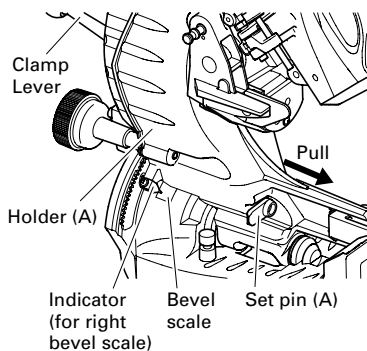

Fig. 30
- (1) Loosen the clamp lever and bevel the saw blade to the left or to the right. When tilting the motor head to the right pull the set pin (A) towards the rear. The clamp lever adopts a latching system. When contacting the work bench and the main body, pull the clamp lever in the direction of the arrow mark as illustrated in Fig. 30, and change the direction of the clamp lever.
- (2) Adjust the bevel angle to the desired setting while watching the bevel angle scale and indicator, then secure the clamp lever.
- (3) Follow the procedures indicated in paragraphs 4,5 and 6 above. For maximum dimensions for bevel cutting, refer to "SPECIFICATIONS" table on page 12.